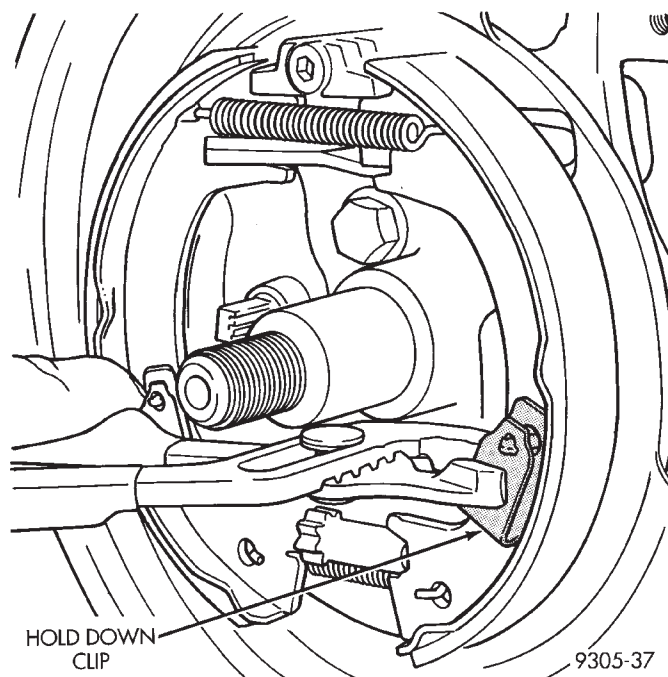

Fig. 150 Rear Brake Shoe Hold-Down Clip
(1) Remove rear disc brake caliper assembly from adapter and rotor (See Disc Brake Shoe Removal).
(2) Remove rear rotor from rear hub.
(3) Remove dust cap from rear hub.
(4) Remove the cotter pin, nut retainer, wave washer and rear hub/bearing assembly retaining nut and washer from the rear spindle.
(5) Remove rear hub and bearing assembly from rear spindle.
(6) Remove rear brake shoe assembly hold down clip (Fig. 150).
- (6) Install rear brake shoe hold down clip (Fig. 150).
- (7) Adjust brake shoes to a diameter to 171 mm (6.75 inch).
- (8) Install rear hub and bearing assembly on spindle.
- (9) Install hub and bearing assembly washer and retaining nut. Torque the hub and bearing assembly retaining nut to 168 N·m (124 ft. lbs.).
- (10) Install the wave washer, retaining nut and cotter pin.
- (11) Install hub and bearing assembly dust cap.
- (12) Install rear rotor.
- (13) Install rear disc brake caliper on the adapter (See Brake Shoe Removal).
- (14) Install wheel and tire assemblies.